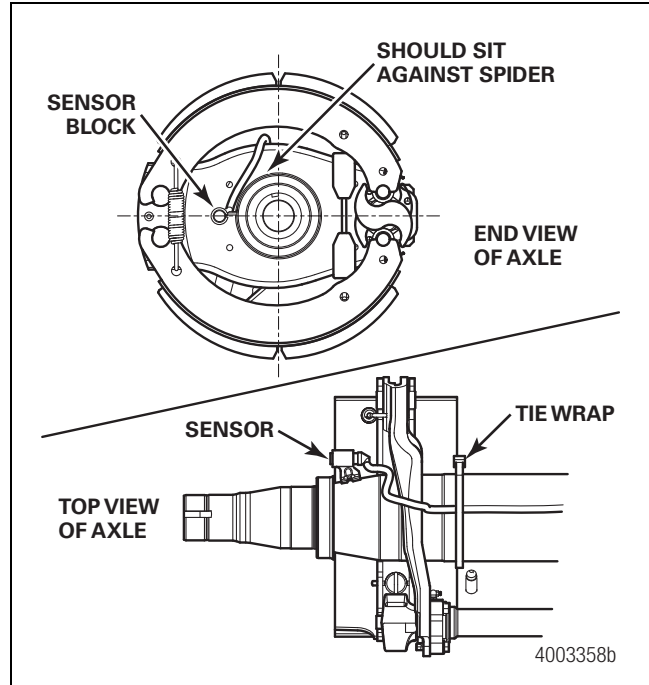

Figure 12.13
3. Route the ABS wires on TP and TR model axles equipped with cam brakes without an ABS spider hole as follows. Figure 12.13.